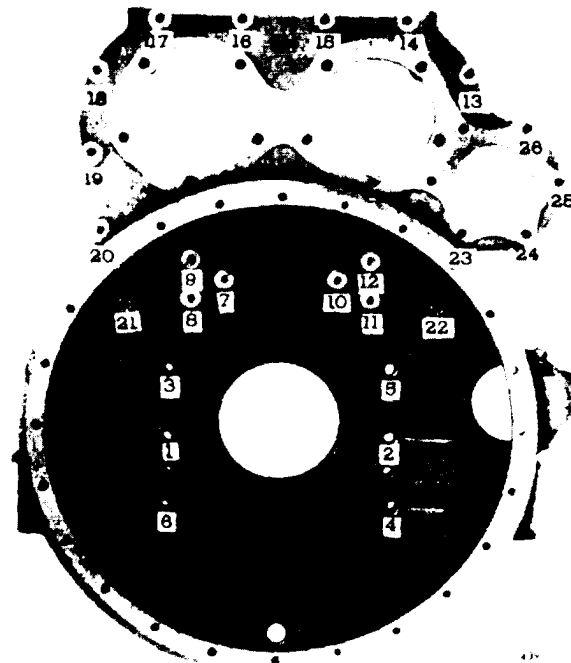

Figure 11B-108. Flywheel Housing Tightening Sequence (Operation 2)
- A. Refer to Figure 11B-109 on page 11B-69 and thread the base post J 9737-3 tightly into one of the tapped holes in the flywheel. Then assemble the dial indicators on the base post.